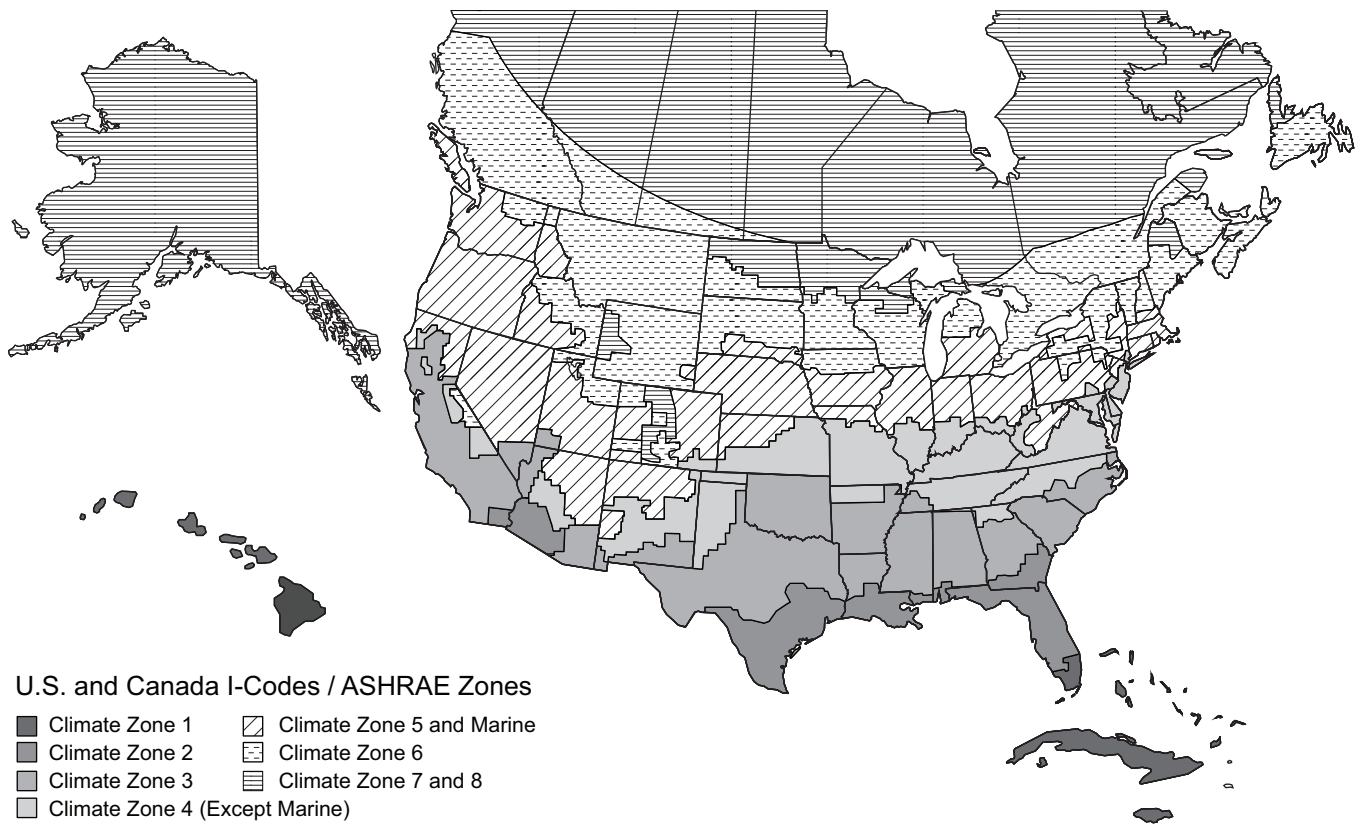

Fig. 90 — U.S. and Canada Climate Zones
- a. Refer to Fig. 90 for map of U.S. and Canada climate zones.